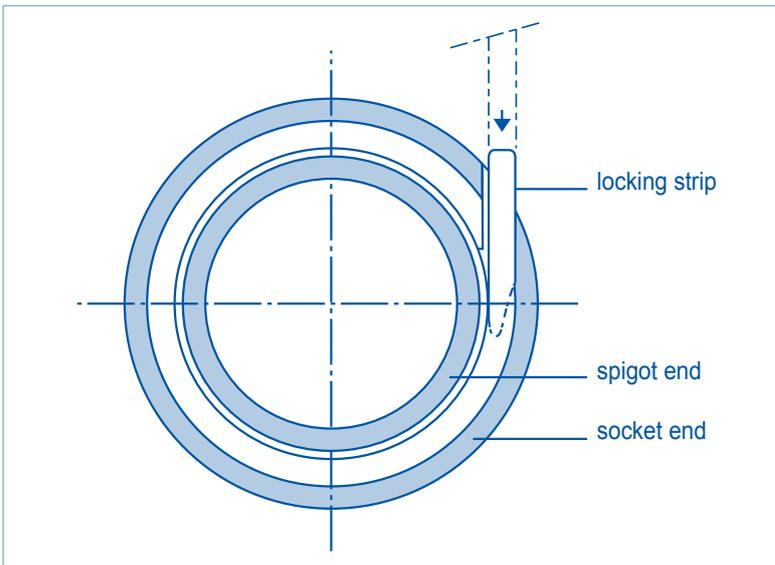

Figure 16: Inserting the Locking Strip
8. The beveled end of the locking strip should be resting against the inside surface of the coupler when inserting. The insertion should be made using a plastic hammer or a piece of wood to tap the key until it resists against the first part of the strip, see Figure 16.